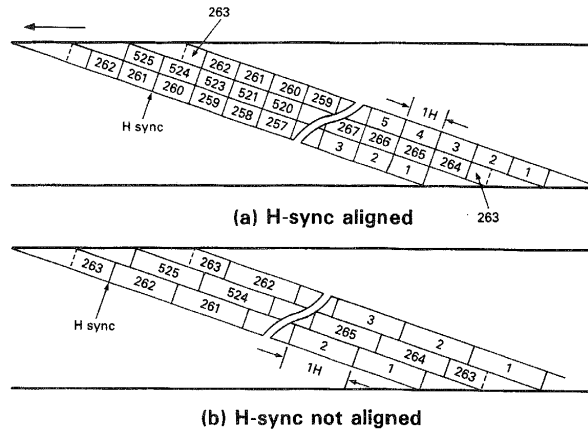
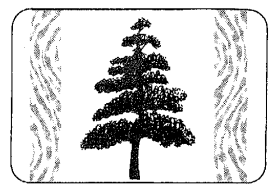

Fig. 23 H-sync Alignment
Fig. 24 Vertical Stripes
The horizontal sync pulses are aligned in the track pattern when recording in  $\beta$  1-hour or VHS 2-hour mode as shown in Fig. 23 (a). With this pattern the cross talk H-sync does not interfere with the main H-sync because they are read out at the same time. In the  $\beta$  2-hour and VHS 4-hour, however, the H-syncs are not aligned. The H-syncs advance or delay from those of the adjacent tracks by  $0.75H$  or  $0.25H$  as shown in Fig. (b). The H-sync cross talk produces vertical stripes on the screen as shown in Fig. 24 because azimuth recording is not so effective to the deeply recorded sync signal which is much lower than Y-signal in frequency. To avoid this trouble  $\beta$  and VHS (EP mode only) shifts Y-carrier by  $f_H/2$  (7.9kHz) every other track. The beat frequency becomes an odd multiple of  $f_H/2$  and the interfering noise becomes invisible with visual integration effect. Refer to p-13, Carrier Interleaving.
#### 7.2.1 Phase Inversion (PI) Fig. 23.
a) This method records information by inverting signal phase every other horizontal period (H) on A-tracks and ↗